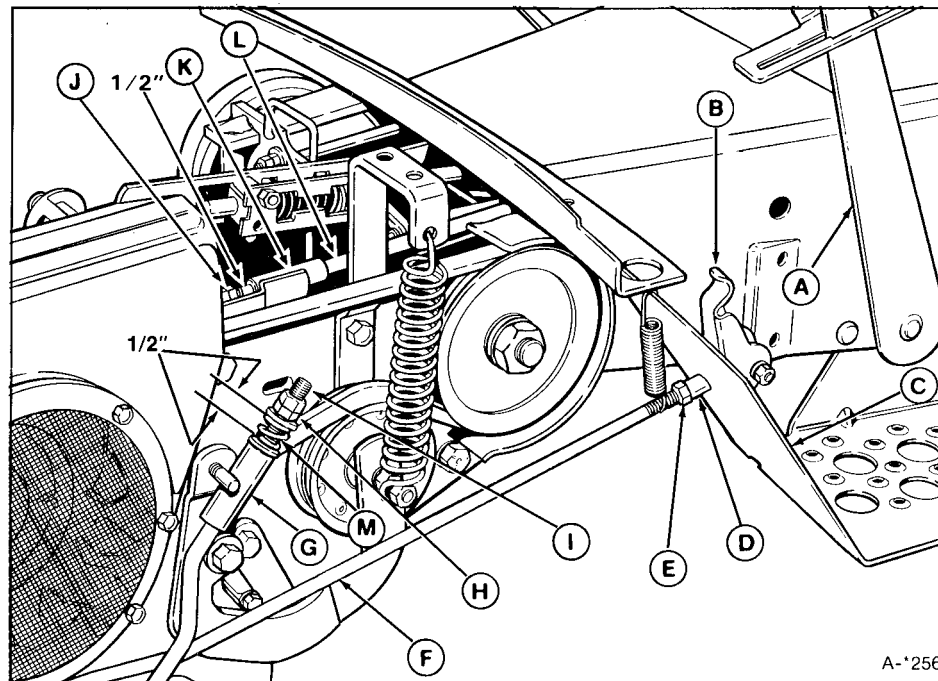

Figure 22. Brake & Clutch Adjustments - Hydrostatic
1. **To adjust parking brake**, loosen the jam nut (E, figure 22) at parking brake rod end. Rotate the parking brake handle (B) clockwise until it is tight and pulled up against fender as shown. Operate the brake handle to see if it is too loose or too tight. It should be tight against fender when set but not too tight to operate. When proper adjustment is made, tighten the jam nut.
2. **To adjust the foot brake**, engage the parking brake. Adjust jam nuts (H) on end of foot brake rod to provide 1/2 inch (12.7 mm) spring length between washers. (If not equipped with spring, see following note.) Depress the pedal to engage the brake. The drive belt should be slack and free of idler pulley. If not, check clutch adjustment (step 3). Test operate the tractor. If brake doesn't stop the tractor, see your dealer.
In step 2, on early models that are not equipped with spring (M, figure 22) adjust nuts (H) to achieve 1/2" clearance to rod guide (G). In step 3, adjust jam nuts (J) to achieve 3/8" clearance to rod guide.